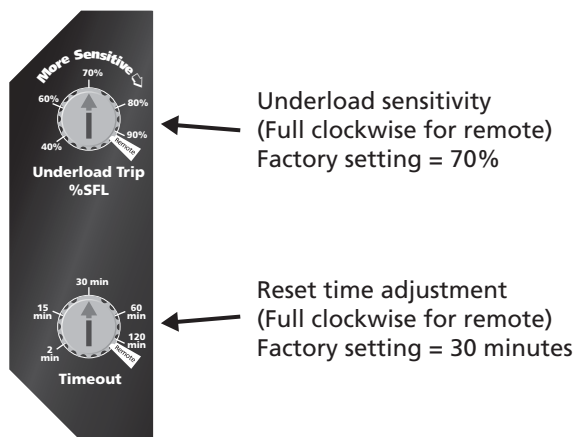

Figure 4: Time-out and Trip Sensitivity Settings
7. Set the time-out adjustment to the desired position. The factory setting is 30 minutes (See Figure 4)*.
*Note: If you will be using IR remote control to set the underload and the time-out settings, set the appropriate adjustment knobs to the "Remote" position (fully clockwise position). See Figure 4. The initial remote settings are the same as the factory presets - 70% for underload and 30 minutes for the underload time-out. The underload adjustment is preset at the factory to detect underload (dry well) conditions on most systems. In general, there is no need to adjust this setting.